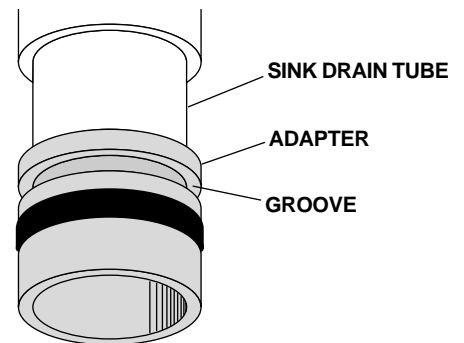

FIGURE 9
- Install the vacuum wash station assembly onto the adapter, then tighten the thumbscrews in the groove (see Figure 9).